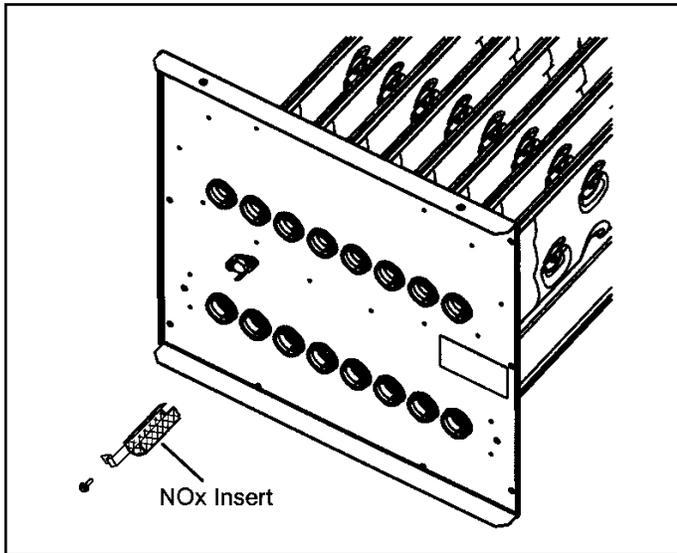

Figure 31. NOx Inserts
8. **NOx units only** - Remove screw securing NOx insert. Remove NOx insert. See Figure 31.